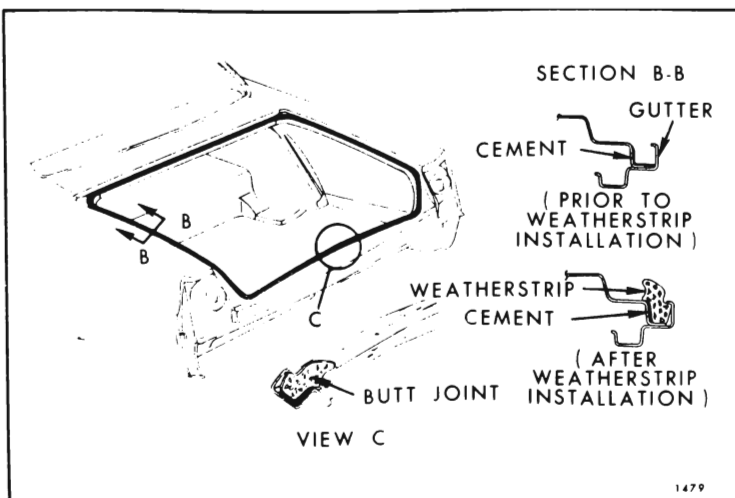

Fig. 9-25—Rear Compartment Weatherstrip Assembly
1. Separate "butt" ends of weatherstrip at rear compartment opening (Fig. 9-25).